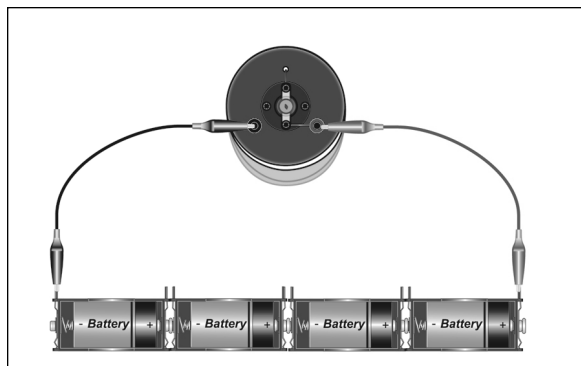

Figure 2
- Connect the Conductivity of Solutions Apparatus to the power source with the connecting cords as shown for battery power in *Figure 2*.